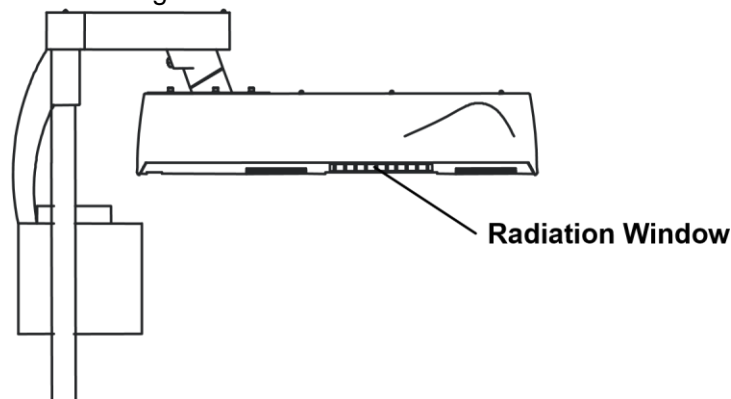

FIGURE 3
5.2.2.1 Location of radiation window as figure 3 shown: